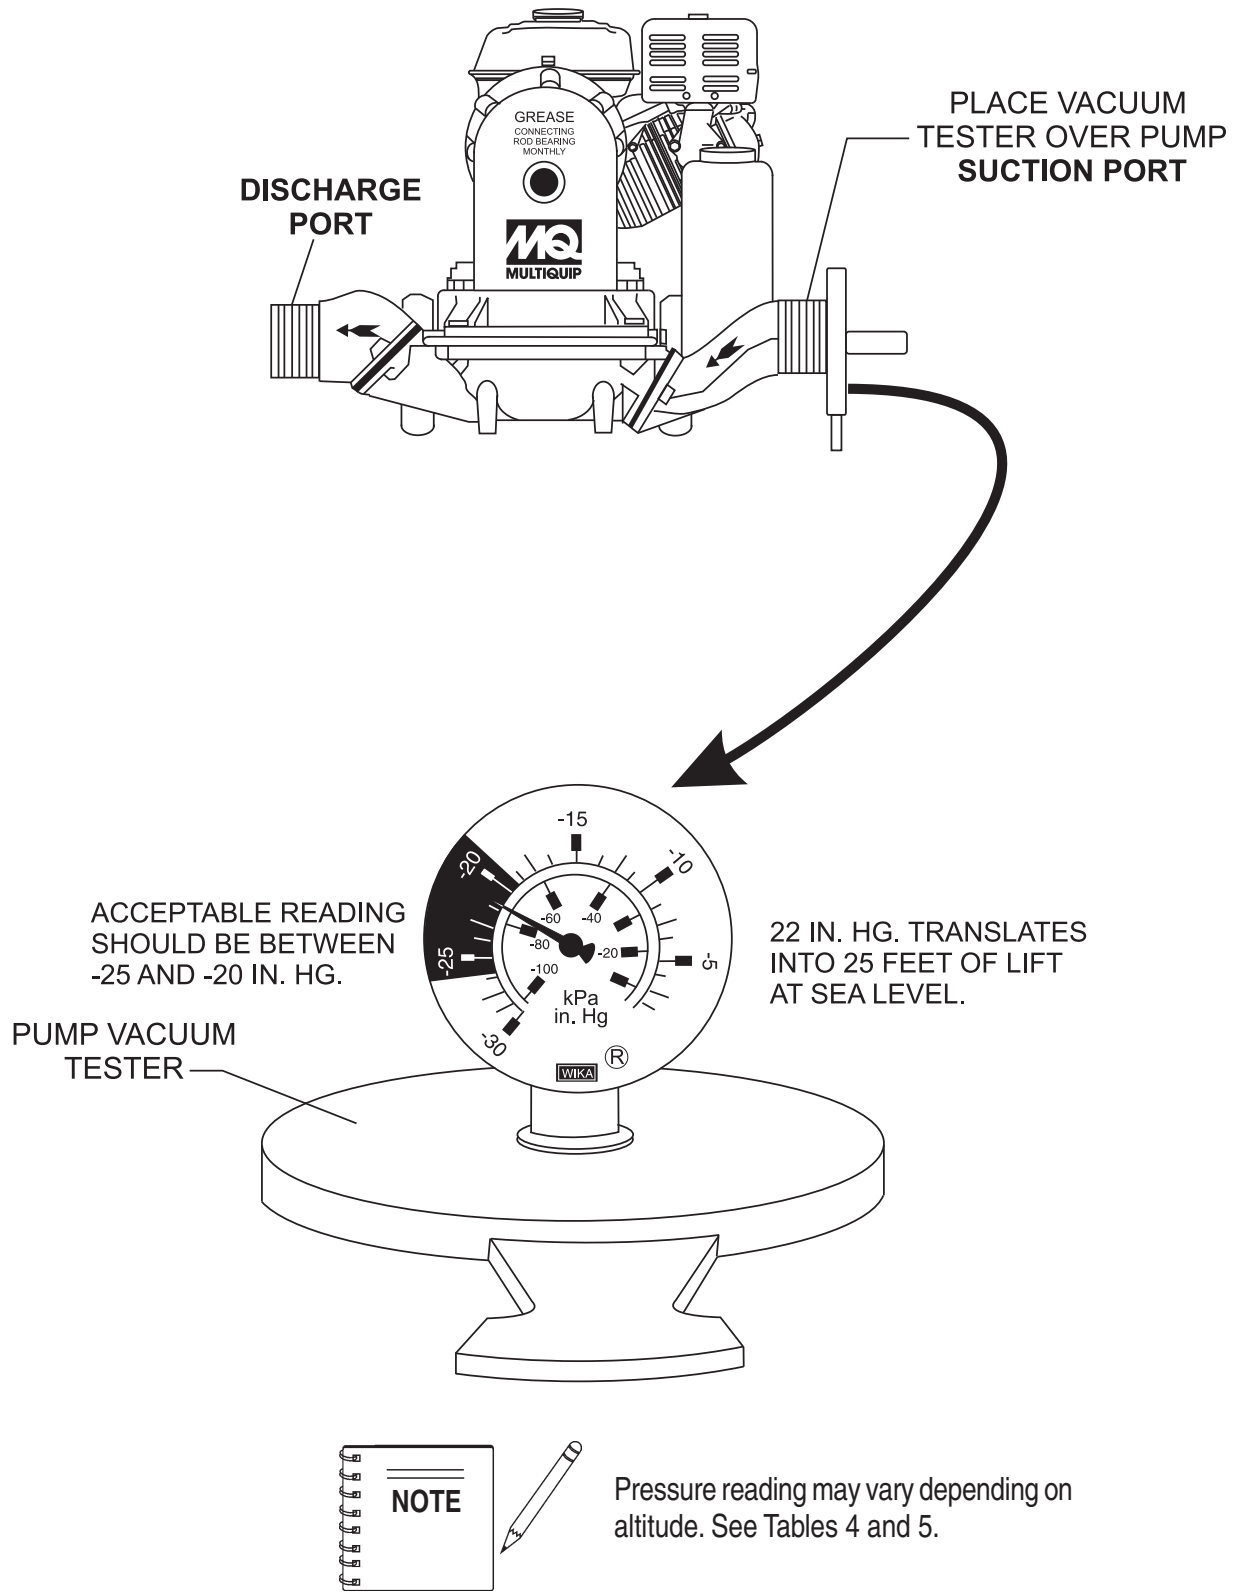

Figure 21. Pump Vacuum Tester
2. Check and make sure that there are no air leaks between the vacuum tester (Figure 21) and the inlet port on the pump. If air leaks are present reseal vacuum tester.